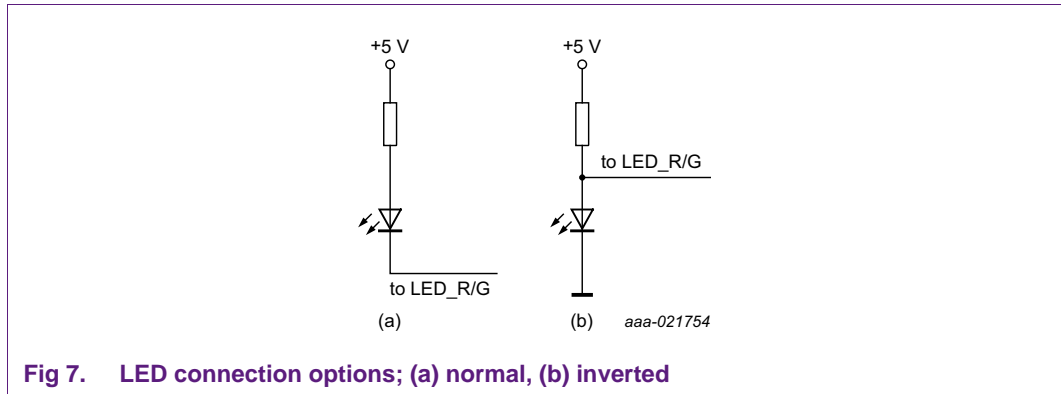

Fig 7. LED connection options; (a) normal, (b) inverted
- Normal (not inverted; see Figure 7 \(a\))
- Inverted (Figure 7 \(b\))